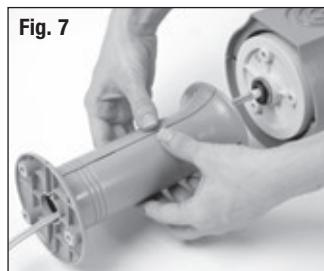

Fig. 7
- Align the front and rear pedestal assembly and firmly snap together (Fig. 7).